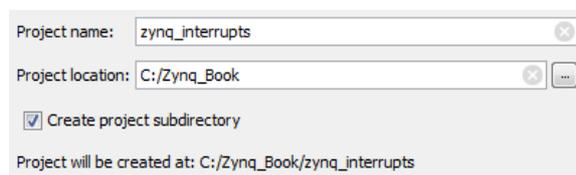

Figure 2.2: New Project dialogue
- (c) Select the option to **Create New Project** as in Figure 2.2.